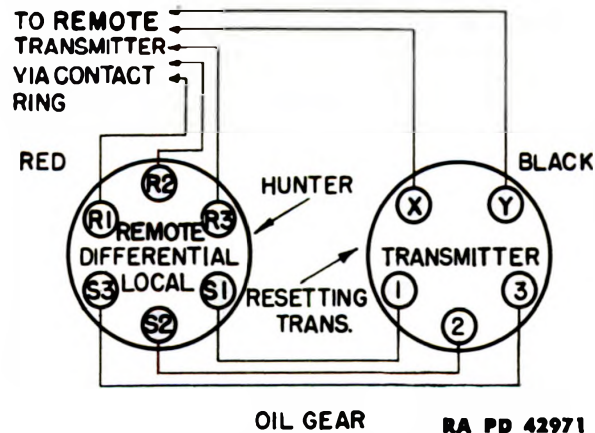

Figure 195 – Wiring Diagram for Oil Gears
and accurately but in a direction opposite to that of the director, two of the wires to the electrical differential are interchanged. A quick correction can be made by interchanging any two of the three "S" leads or any two of the three "R" leads to the differential; however, as soon as time permits, the wiring should be checked for the original mistake and connected according to the wiring diagram (fig. 195).
(6) Now refer to figure 195, the wiring diagram for oil gears. Disconnect three leads (R1, R2, and R3) to the differential and two leads (X and Y) to the resetter transmitter by loosening the terminal screws. Do not disconnect the interconnecting leads (S1, S2, S3, and 1, 2, 3). Note the lead markings (mark the leads if there are no lead markings) to insure that the leads can be reconnected to their corresponding terminals.